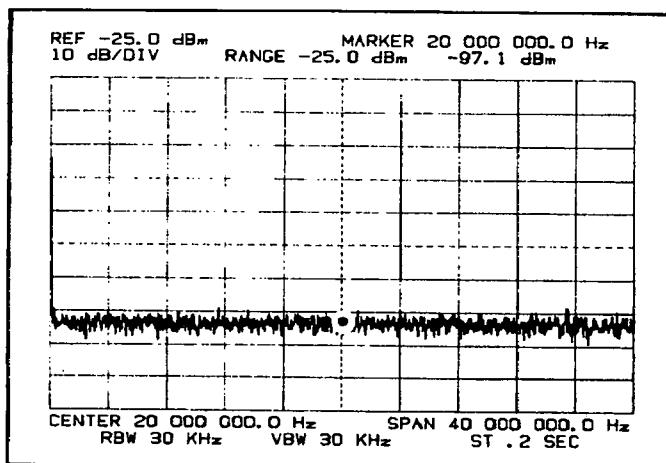

**Figure 2-3. Front-Panel Functions Activated At Turn-On.**
2. Verify that the activated front-panel functions on your instrument correspond to those shown in Figure 2-3.